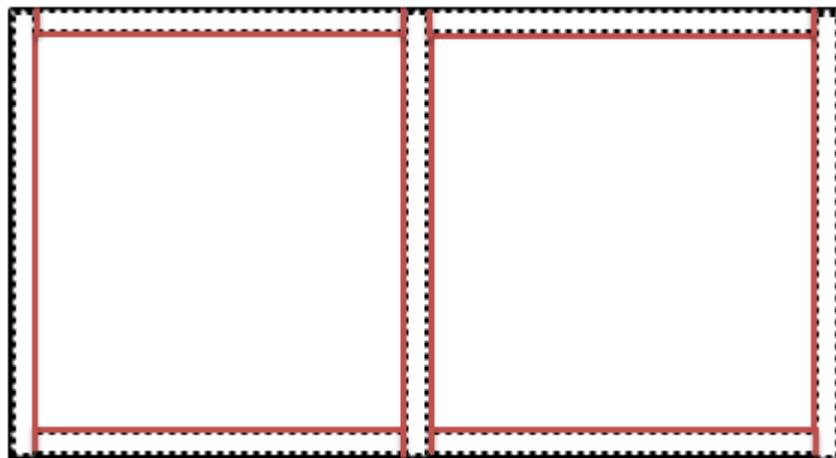

Figure 7-90: Cutting Lines (in red)
3. Set up the circular saw with a diamond blade of 13.00 mm thickness in order to cut all the Abrastop™ panels. Cut the panel on each side of the floor structure. Use a straight edge as reference to make straight cuts. See Figure 7-90.